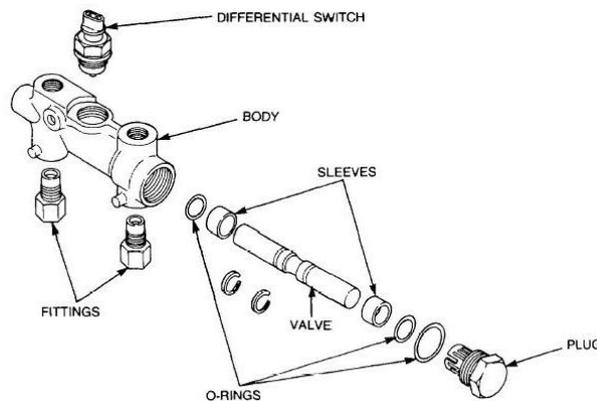

Figure 283 Proportioning Valve - Exploded View
- b. Unscrew the pressure differential switch from the valve body and remove the brake pipe fittings (Figure 283).